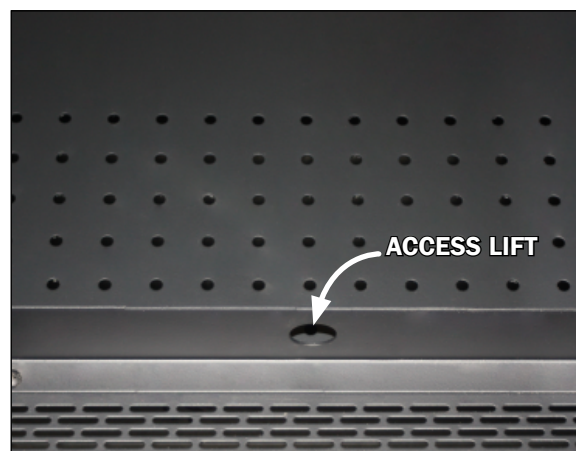

Fig. 18 Base deck pre-drilled access lift
2. To reach the fans and pressure plate first remove the base deck with help of the pre-drilled access lift supplied (Fig. 18). **Note: It is recommended that more than one person lift the deck.**